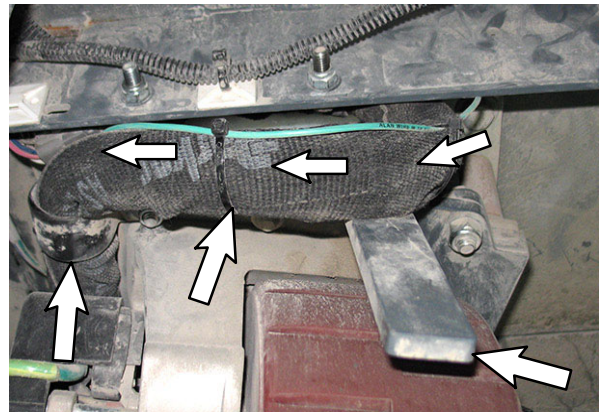
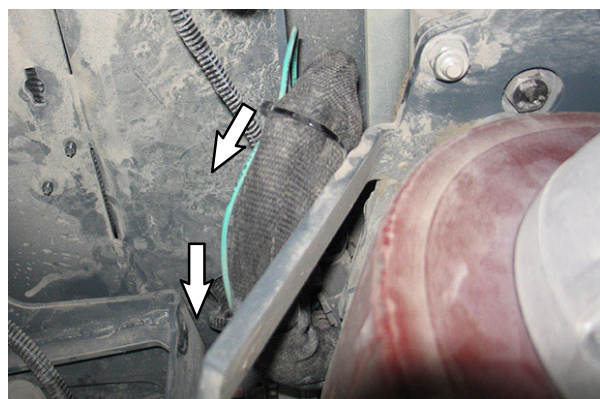

FIG. 11
FIG. 12
11. Route the green wire (1) along the main wire harness and through the first p-clamp installed on the drive wheel assembly. Use a cable tie (5) to secure the green wire to the main wire harness and away from the bottom spacer plate. (Fig. 11/ Fig. 12)
12. Use a cable ties (5) to secure the green wire (1) to the main wire harness and away from the bottom spacer plate. (Fig. 11/ Fig. 12)